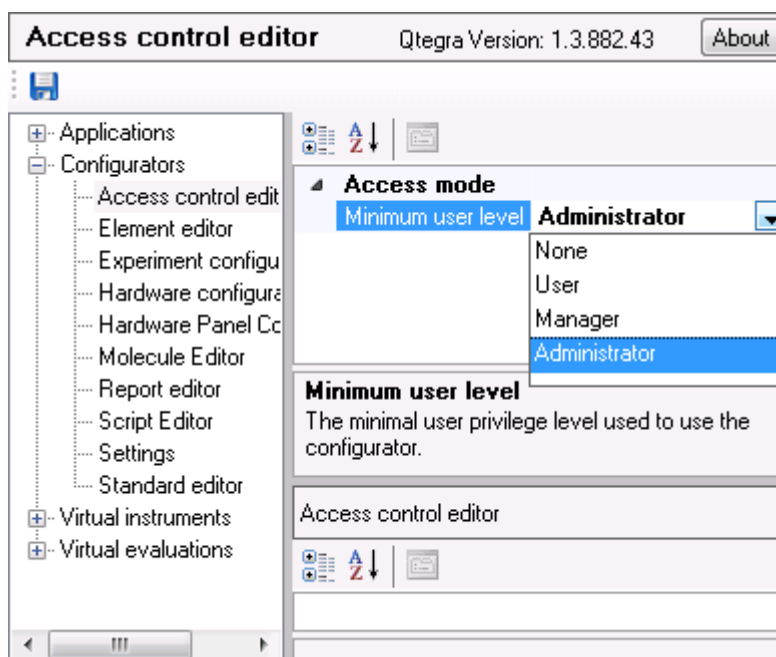

Figure 3-4. List of access groups for minimum user level
5. Click  to display the list of defined access groups, see Figure 3-4.